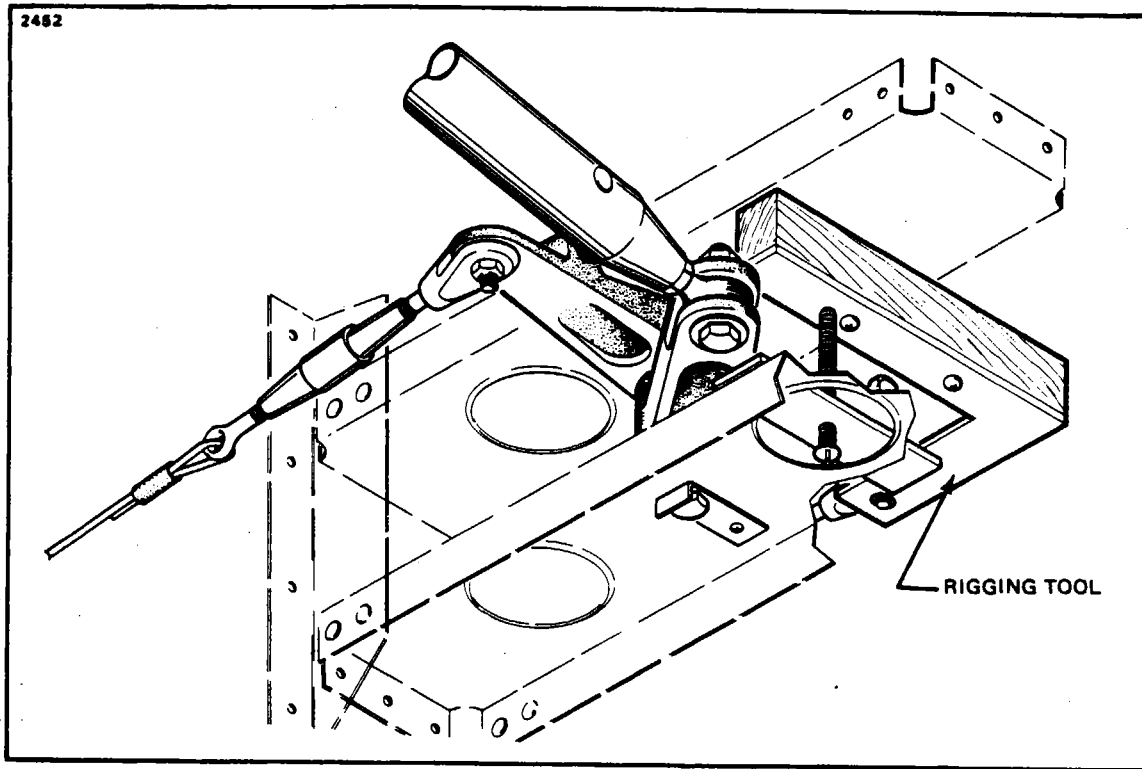

Figure 5-4. Installation of Aileron Bellcrank Rigging Tool
- Install the stop block (28) and torque bolts, if previously removed.
- Position the bellcrank (2S) with the adjustable stops (27) toward the outboard end of the wing.
- Torque the nut, then bend the corners of the bolt stop (26) around the bolt holding it secure.
- Connect the aileron control tube (23) to the bellcrank (25) with bolt, nut and cotter pin.
- 5-13. RIGGING AND ADJUSTMENT OF AILERON CONTROLS. (Refer to Figure 5-4.)
- To rig the aileron controls, set the right and left aileron bellcranks in neutral position by attaching a fabricated aligning tool within both wings as shown in Figure 5-4. (This tool may be fabricated from dimensions given in Figure 5-16.) The fabricated tool may be installed by the following procedure: